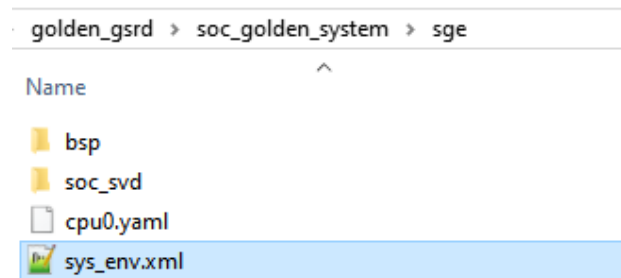

Figure 9.6. New sys_env.xml File Generated
7. Once validated and generated, it updates the **sys_env.xml** file in the **sge** folder under the project directory as shown in Figure 9.6.